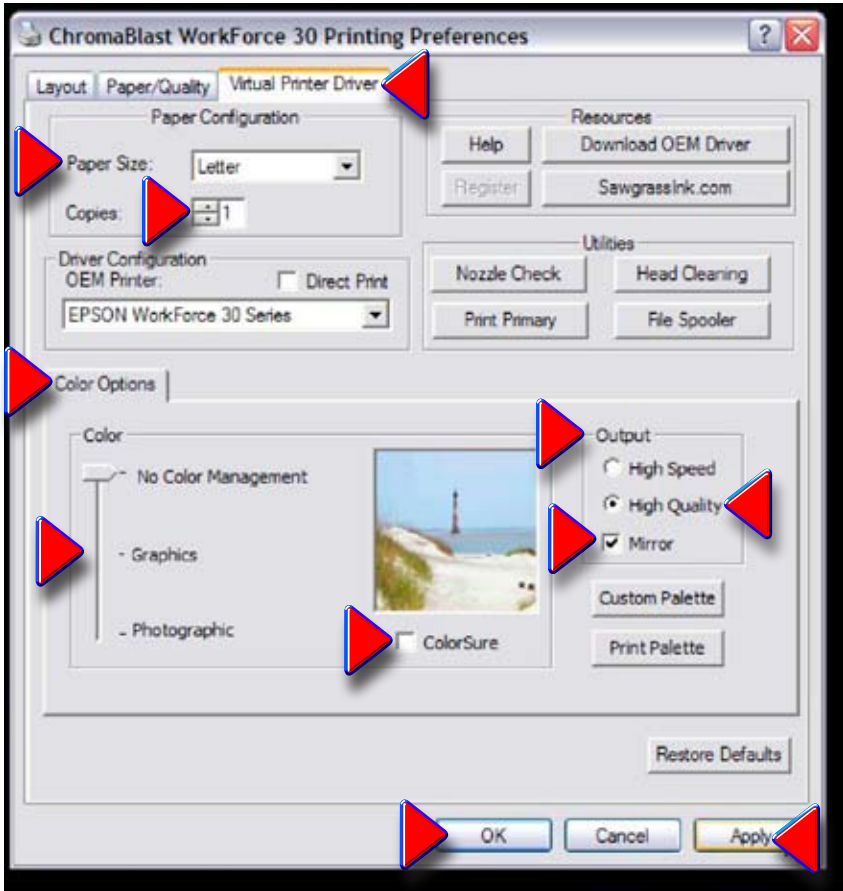

Figure 4
4. In **Figure 4**, you must set preferences according to the printing you require, either **“Photographic”**, **“Graphics”**, or **“No Color Management”**. You need also choose **Paper Size**, **Number of Copies**, **“High Speed”** or **“High Quality”**, **“Mirror”** or not, and **“ColorSure”** Involvement, if any. Once this is done, click on **“Apply”**, then click **“OK”** to return to the **“Properties” Window (Fig. 3, Page 35)**. Once again, click on **“Apply”**, then click **“OK”**, returning you to the **“Printers and Faxes” Window in Fig. 2**.